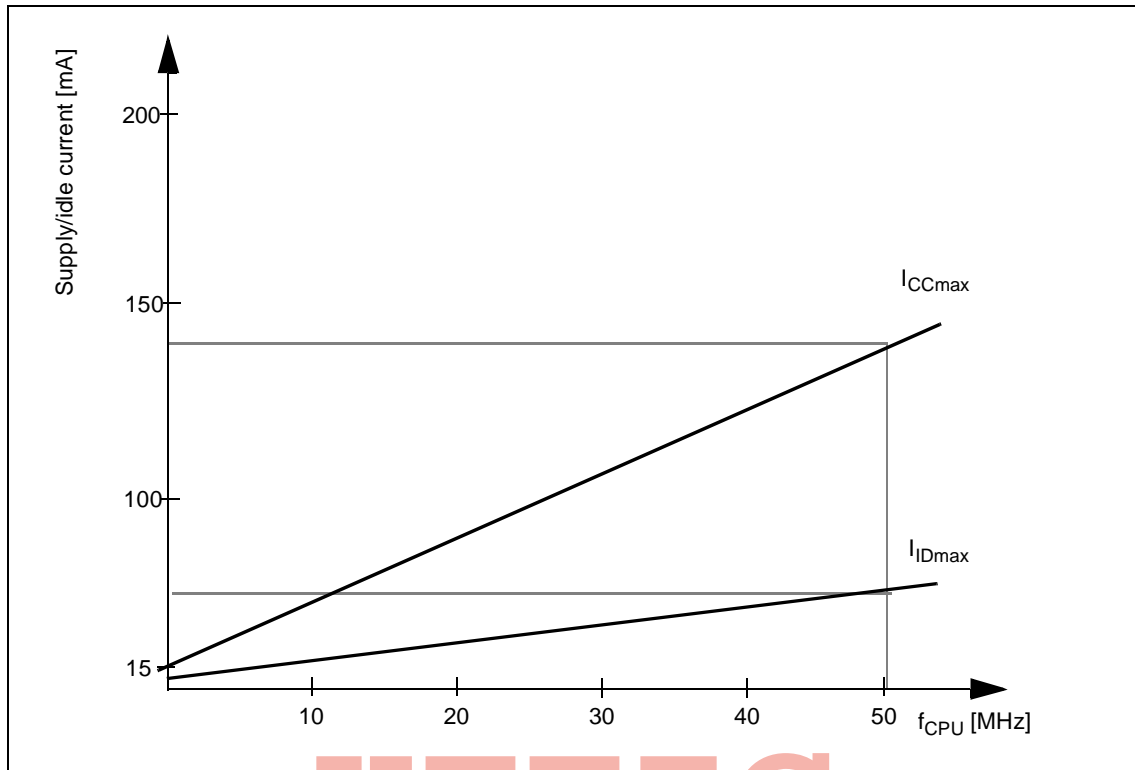

Figure 10 Supply/idle current vs operating frequency
- 7) Supply current is a function of operating frequency as illustrated in Figure 10 on page 44. This parameter is tested at  $V_{DDmax}$  and 50 MHz CPU clock with all outputs disconnected and all inputs at  $V_{IL}$  or  $V_{IH}$  with an infinite execution of NOP instruction fetched from external memory (16-bit demux bus mode, no waitstates, no memory tri-state waitstates, normal ALE).